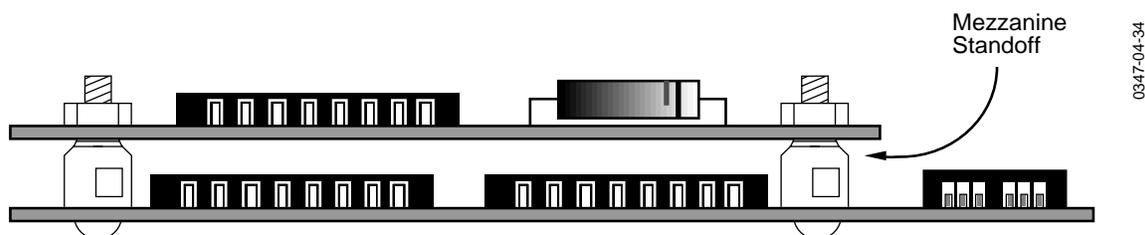

Figure 4-17. Mezzanine Board Mounting Showing Standoffs.
6. If the board to be removed has a mezzanine board mounted on it, perform the following sub-steps. See Figure 4-17 If not proceed to step Seven.